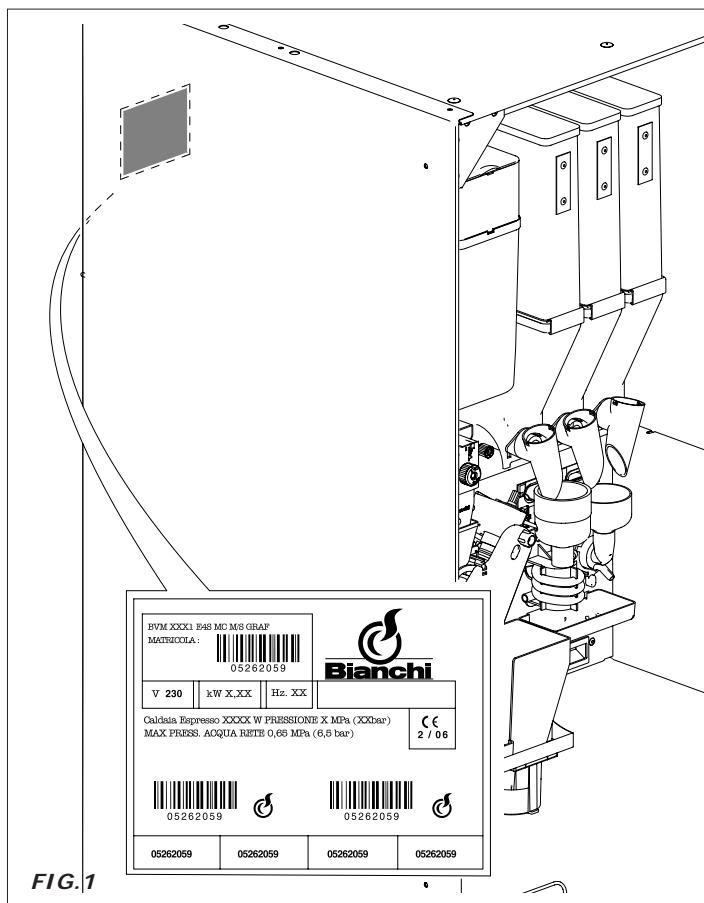

FIG.1
- *The data registered on the serial number label (Fig.1)*